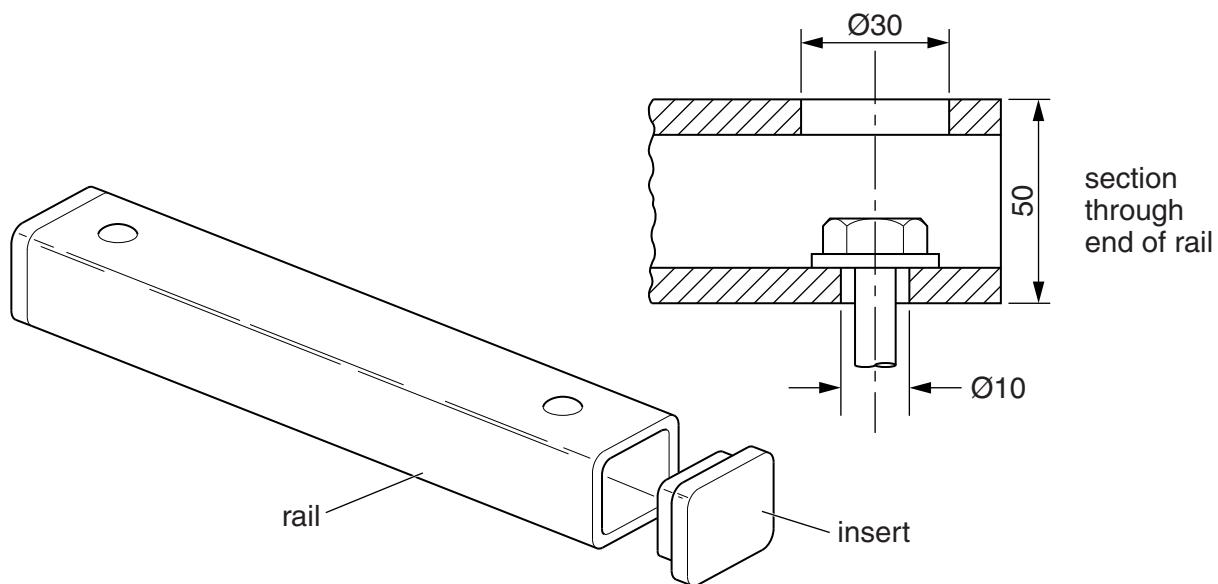

Fig. 3
- (e) Fig. 3 shows details of one of the seat rails from the bench.
- (i) State a **suitable specific plastic** for the seat rail shown in Fig. 3.
- (ii) Describe, in detail, how the seat rail shown in Fig. 3 would be manufactured as a batch of 5000.